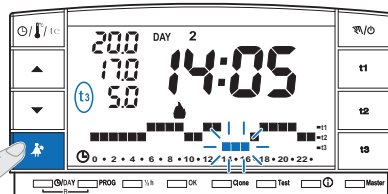

fig. 48
- When operating with programs (P 01 ÷ P 03), the connected appliance can be deactivated for 3 hours, by pressing "⌘". During this time, the chronothermostat will switch to t3 **Absence** temperature. The insertion of this function is displayed in t3 on the 24-hr scale by three blinking digits corresponding to the 3 hours, starting from the one in progress (example in fig. 48).